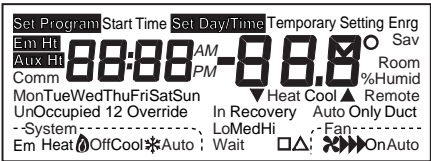

Fig. 3. LCD display of all segments.
- To enter the Installer Setup, press and hold the Heat/Cool Settings key with both the increase Δ and ∇ decrease keys until the first number is displayed. All display segments appear for approximately three seconds before the number is displayed. See Fig. 3 and 4.